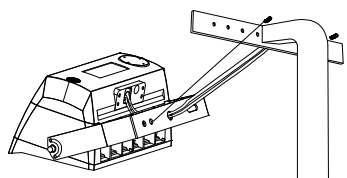

Figure 12
3. Flood Mounting (FM)
- STEP 1: Drill holes on the wall as shown. (FIGURE 12)